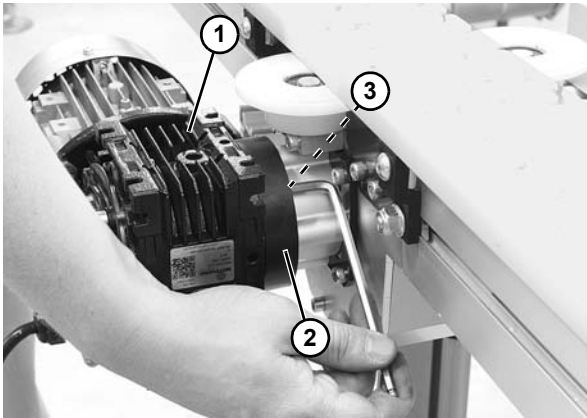

Figure 71
11. Install drive package (**Figure 71, item 1**) to drive motor mounting bracket (**Figure 71, item 2**) using four socket head screws (**Figure 71, item 3**).